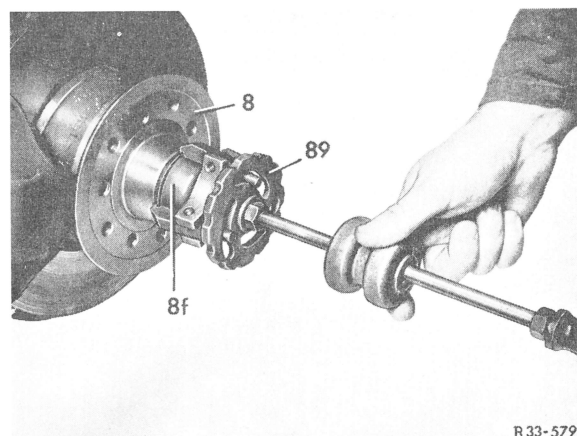

Fig. 1
- 2 Pull the hub grease cap off the front wheel hub with the special tool (89) (Fig. 1).
16 Press hub grease cap on with special tool (Fig. 1).